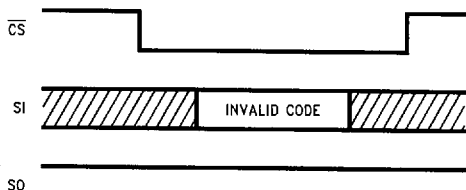

FIGURE 5. Invalid Op-Code
**INVALID OP-CODE:** After an invalid code is received, no data is shifted into the NM25C020, and the SO data output pin remains high impedance until a new CS falling edge re-initializes the serial communication. See Figure 5.